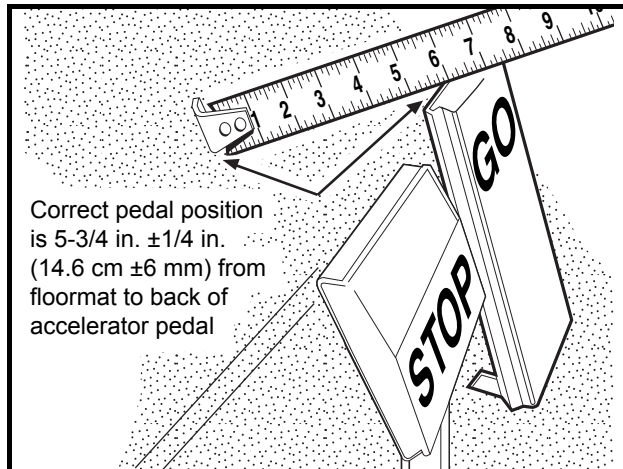
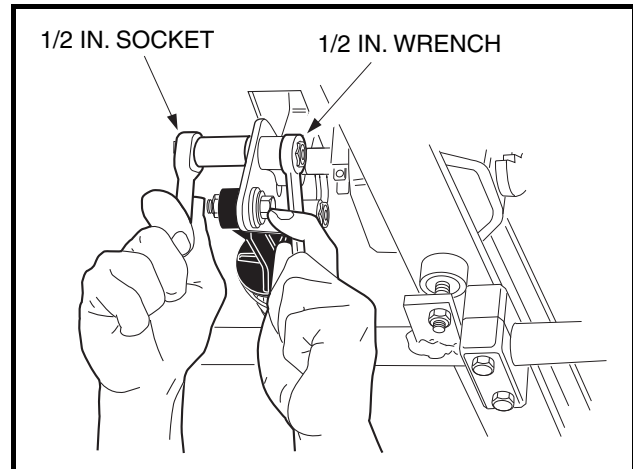
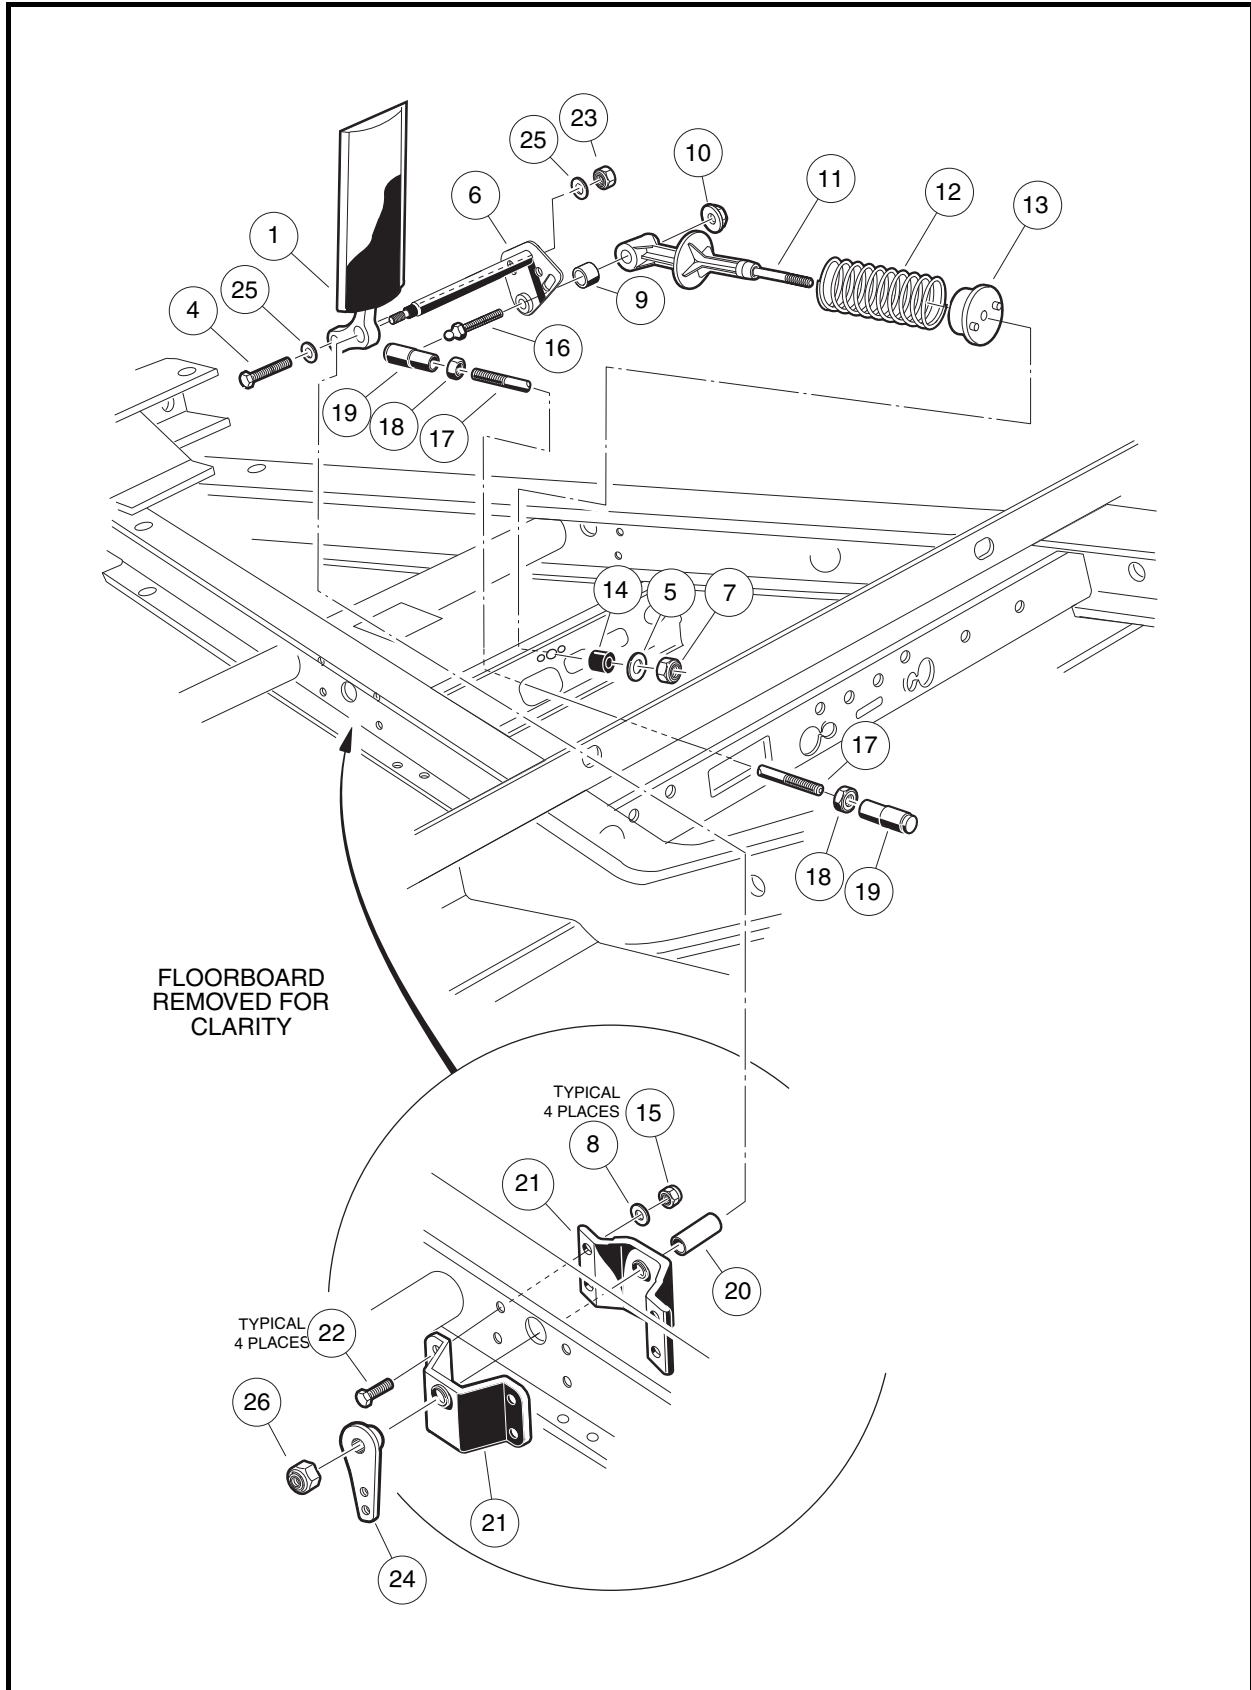

Figure 5-7 Accelerator Pedal Height
Figure 5-8 Accelerator Pedal Adjustment
Figure 5-11 Accelerator Pedal Assembly
4. Use a 9/16-inch socket and 9/16-inch wrench and remove the nut (23), two washers (25), and bolt (4) securing the accelerator pedal (1) to the pivot rod (6) (**Figure 5-11, Page 5-9**).
6. Remove the nut (10) and ball stud (16) from the accelerator pivot rod (6) and spring retainer (11) assembly.
7. Slide the spring retainer (11) off of the accelerator pivot rod.
8. Inspect the pivot support bearing (9), inside the spring retainer, for wear and replace if necessary.
9. Remove locknut (26) from the accelerator pivot shaft.
10. Move the brake pedal slightly and then slide the spacer (24) toward end of accelerator pivot rod, releasing the splined fit between the two. Rotate the spacer (24) and remove from the pivot rod (6).
11. Loosen, but do not remove, the four bolts (22) and locknuts (15).
12. Slide the pivot rod (6) from the accelerator pivot rod supports (21), nylon spacer (20), and accelerator (1). Remove both the pivot rod (6) and the accelerator pedal (1).
13. Inspect the accelerator pivot rod support bearings (21) and all parts for wear or damage and replace as necessary (**Figure 5-11, Page 5-9**).
1. If replaced, position the supports (21) on the vehicle frame and loosely install the four bolts (22), washers (8), and locknuts (15) and finger-tighten (**Figure 5-11, Page 5-9**).
2. With another person, position accelerator pedal (1) through the floorboard and slide the accelerator pivot rod (6) through the upper hole in the pedal, through the nylon spacer (20), and through the two pivot rod supports (21).
3. Tighten bolts (22) to 75 in-lb (8.5 N·m).
4. Install spacer (24), aligning the splined parts, and tighten the nylon locknut (26) to 18 ft-lb (24.5 N·m).
5. Insert bolt (4) through a washer (25) and through the lower hole in the pedal, then through the adjacent slotted hole in the pivot rod (6). Attach the remaining washer (25) and nut (23). Finger-tighten nut. **See Accelerator Pedal Adjustment on page 5-6.**
6. Insert pivot support bearing (9) into spring retainer (11) and onto the boss of the pivot rod plate.
7. Install the ball stud bolt (16) through the pivot rod (6) and pivot support bearing (9). Secure these parts with nut (10) and tighten to 50 in-lb (5.5 N·m).
1. Measure the distance from the top of the accelerator pedal to the floorboard. If it is within the range of 5-3/4 inches  $\pm 1/4$  inch (14.6 cm  $\pm 6$  mm) (**Figure 5-7, Page 5-7**), adjusting the accelerator pedal is not necessary. Tighten the nylon locknut (23) to 26 ft-lb (35.3 N·m) (**Figure 5-11, Page 5-9**) and proceed to step 8. If adjustment is necessary, proceed to step 2.
4. Loosen the nut and bolt securing the accelerator pedal to the pivot plate (**Figure 5-8, Page 5-7**).
- 6.1. Adjust the distance from the floormat to the back of the accelerator pedal to be 5-3/4 inches  $\pm 1/4$ -inch (14.6 cm  $\pm 6$  mm) (**Figure 5-7, Page 5-7**). Tighten nut to 26 ft-lb (35.3 N·m) (**Figure 5-8, Page 5-7**).
- 7.2. Loosen the jam nuts (18) and disconnect the accelerator rod (17) at the accelerator pedal (Figure 5-11, Page 5-9). Adjust the length of the rod so the indicated cam edge is parallel with the edge of the electrical component box (Figure 5-10, Page 5-8). See following **CAUTION**.
8. Connect the accelerator rod at the accelerator pedal (**Figure 5-11, Page 5-9**).
- 8.2. Hold the ball joint at each end of the accelerator rod (17) with pliers and tighten the accelerator rod jam nuts (18) against each ball joint (**Figure 5-11, Page 5-9**).